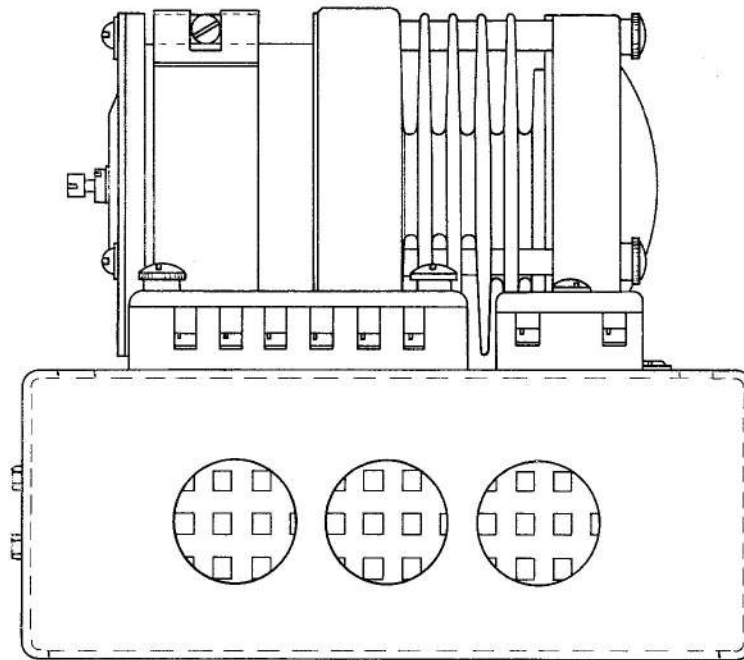

Fig.1 Voltage regulator, Type 116
2. The regulator (*fig.1*) is of the single carbon pile type, and in general construction and principle of operation is similar to the standard design as described in A.P.4343, Vol.1, Sect.6, Chap.2. The regulator incorporates a carbon pile, 1½ in. long, made up of not less than seventy six 0.5 mm. carbon washers.